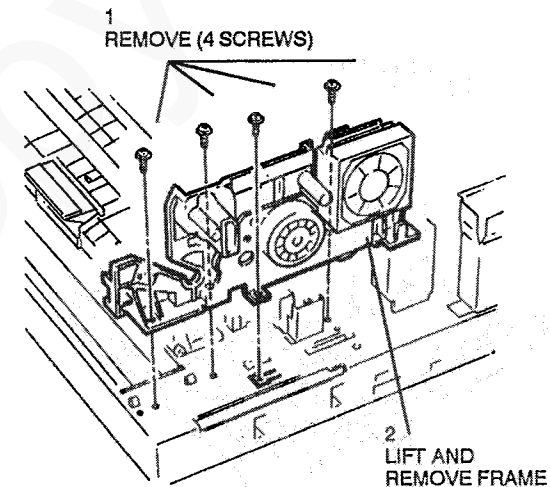

Figure 1. Right side frame assembly removal
6. (Figure 1) Remove the right side frame assembly.